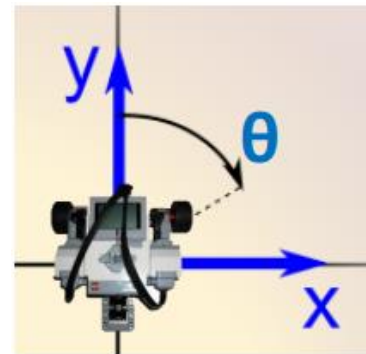
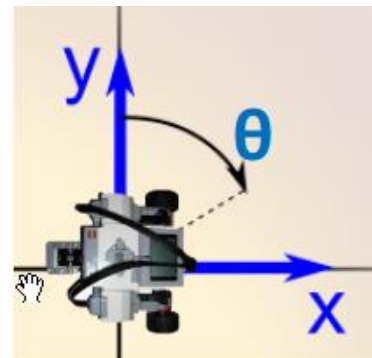

Figure 1. Robot faces north at 0° .
Figure 2. Robot faces east at 90° .
E.g. if the (X , Y , θ) convention is set as in Figure 1, then:
E.g. if the (X , Y , θ) convention is set as in Figure 2, then:
5. Do I have to follow the same (X, Y, θ) convention as in Figure 1 and Figure 2?
The robot's initial condition is based on your (X, Y, θ) convention - you must inform the TA about your initial orientation. Once the float motors option is selected on the robot, the TA will place your robot on a table. Assuming the same convention as in Figure 1, the TA will forcefully rotate both the wheels forward to test the Y values. Note that the robot will not move automatically, but rather the TA will rotate both wheels using his/her hands. The TA wants to notice whether the Y-value will increase or not, without affecting the X and θ values by much (since they could be affected due to experimental error). Therefore, the odometer's accuracy is irrelevant here. The main idea is to observe whether the odometer functions well using a fixed convention. A similar wheel-rotation test is also performed for checking decreasing values as well as for other variables.